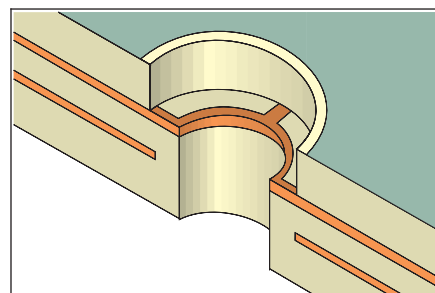

Figure 2 Mill down to and expose inner layer signal or plane.
7. Select an end mill approximately 0.050 - 0.075 mm larger than the eyelet diameter. Insert into the precision drill press and mill down to and expose the inner layer signal or plane. (See Figure 2.)